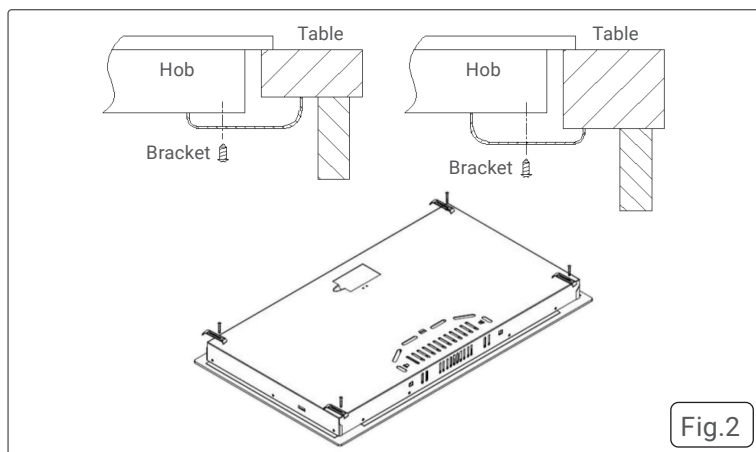

Fig.2
- POSITIONING THE APPLIANCE SEE FIG.1 & FIG.2**
- Ensure the work surface is level and square, and that no part interferes with the space required for installation. Secure the hob to the work surface using the screws and fixing brackets supplied with the appliance. Refer to Fig. 2 for installation details. Adjust the position of the brackets as necessary to suit different work surface thicknesses, ensuring the hob is firmly and evenly fixed in place.